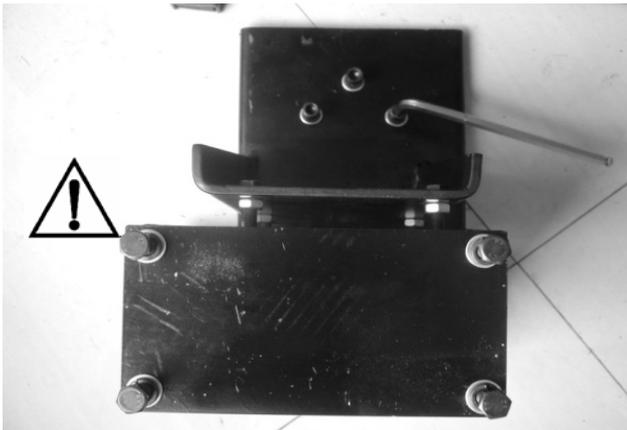

Fig 7-1
7.1.2 Detach the package of the PL330assistant. Check the accessory according to the pack list. After confirmation, takeout the base assembly(fig7-1) and install the screw and washer on it.